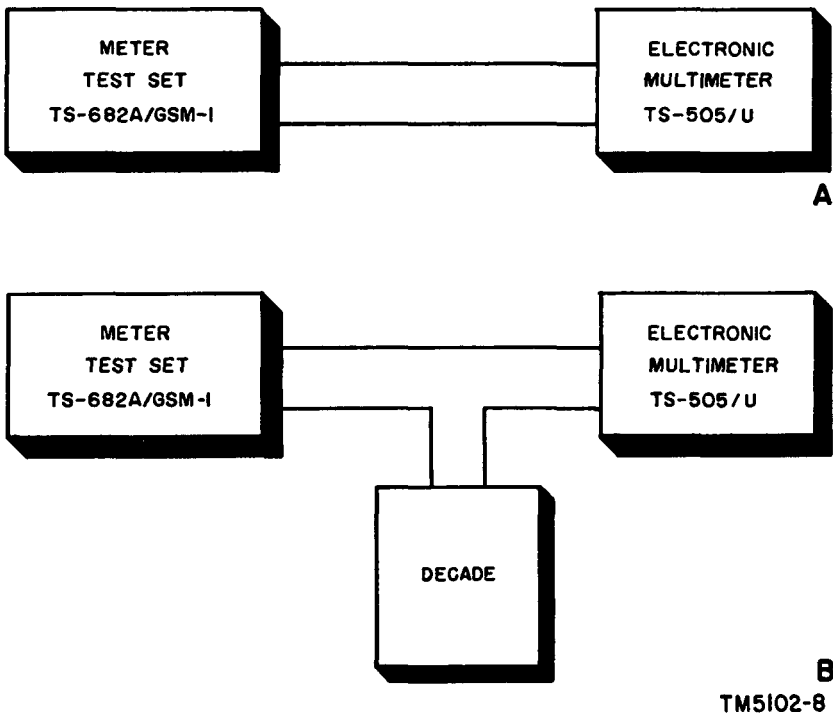

Figure 4. Test setup for measuring resistance value of X 10 MEG decade switch.
- (1) Set all decade switch controls to their 0 positions.
- (2) Connect the resistance bridge to the decade binding posts.
- (3) Set the resistance bridge at its most sensitive range and note the reading. The reading should not exceed .05 ohm.
- (4) Tap the decade switch controls while observing the resistance bridge reading. If the resistance bridge null detector (galvanometers) indicates a *maximum opposite deflection*, inspect the connections at each decade switch. Look for a defective or loose solder joint.
- (5) With all other decade switch controls at their 0 positions, turn the X 0.1 decade switch control clockwise one step at a time and note the resistance bridge reading for each step. The reading for each decade switch step should correspond to the value indicated by the decade switch control setting (par. 10) plus approximately .05-ohm wiring and contact resistance (par. 4). Tap the decade switch control at each setting for defective decade switch contacts.
- (6) Repeat the procedure given in (5) above for each of the succeeding eight decade switches. The checking procedure for the last decade switch is described in c below.
- (7) Replace a defective resistor or decade switch (par. 29a and b).
- (8) After a part has been replaced, repeat the procedure given in (5) above; operate the replaced or repaired decade switch to make sure that the decade switch functions properly.
c. *Checking X 10 MEG Decade Switch with Meter Test Set and Electronic Multimeter* (fig. 4). To measure the resistance of the individual resistors or of the entire X 10 MEG decade switch of 100 megohms, proceed as follows:
- (1) Connect Meter Test Set TS-682A/GSM-1 to Electronic Multimeter TS-505/U as shown in A, figure 4. Consult the respective technical manuals TM 11-2535B and TM 11-5511 for details in making the connections and for operating the equipment.
- (2) Adjust the output of the meter test set to 2 volts dc.
- (3) Note the reading on the voltmeter of the electronic multimeter. It should be 2 volts dc.
- (4) Disconnect one lead between the two instruments and connect the decade in series with the meter test set and the electronic multimeter as shown in B, figure 4.
- (5) With all other decade switch controls at their zero (0) positions, turn the X 10 MEG decade switch control clockwise to position 1.
- (6) Adjust the output of the meter test set until the reading on the electronic multimeter is 2 volts dc. Note the reading on the meter test set.
- (7) Use the following formula to determine the resistance of the decade switch resistor being measured. (The resistance determined should be the same as the value indicated on the decade panel, ± 1 percent.)